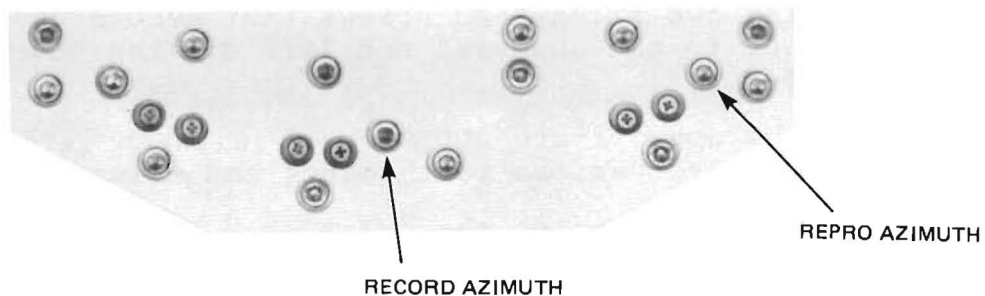

FIGURE 4-2. REPRO AND RECORD HEAD AZIMUTH ADJUSTMENT SCREWS.
8. Playing the 8 kHz calibration tone, and, using the allen hex wrench, gradually adjust the head azimuth for coincident sine waves (proper phase response) on the oscilloscope. Refer to figure 4-2 for the location of the repro head azimuth adjust screw.
10. Now, set the MTR-10 output selector switches to SEL-REP position, and repeat steps 7 and 8, but adjust the record head azimuth screw. (Refer to figure 4-2).